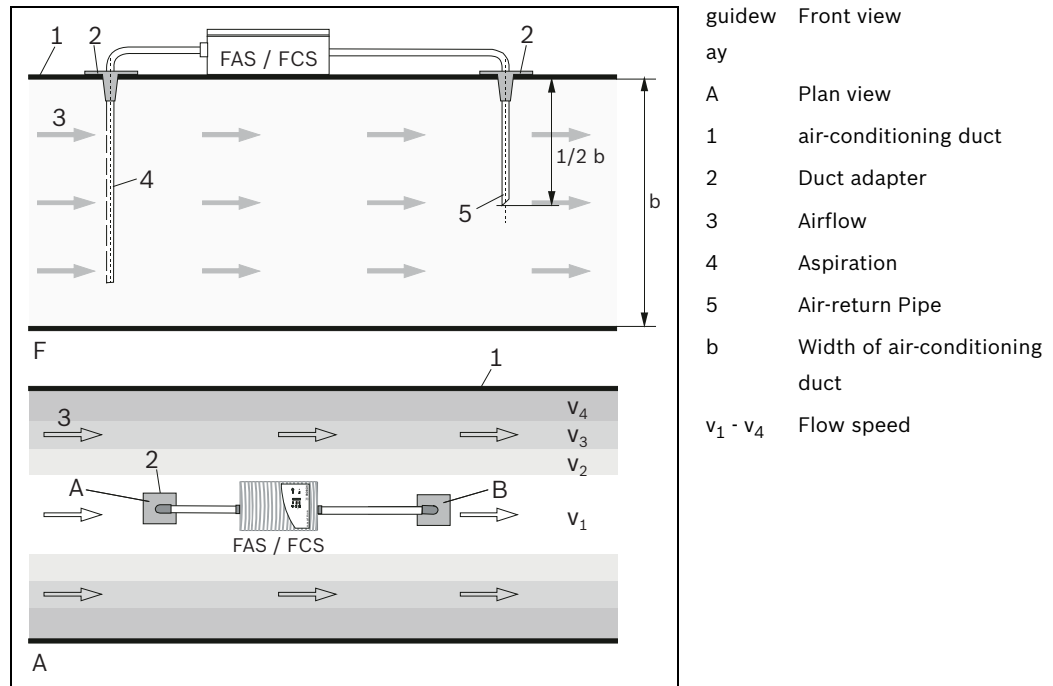

Figure 3.18 Air-return Pipe
- Since the FCS-320-TM and the pipe system are located in different pressure ranges, an air return pipe (see *Figure 3.18*) must be provided.